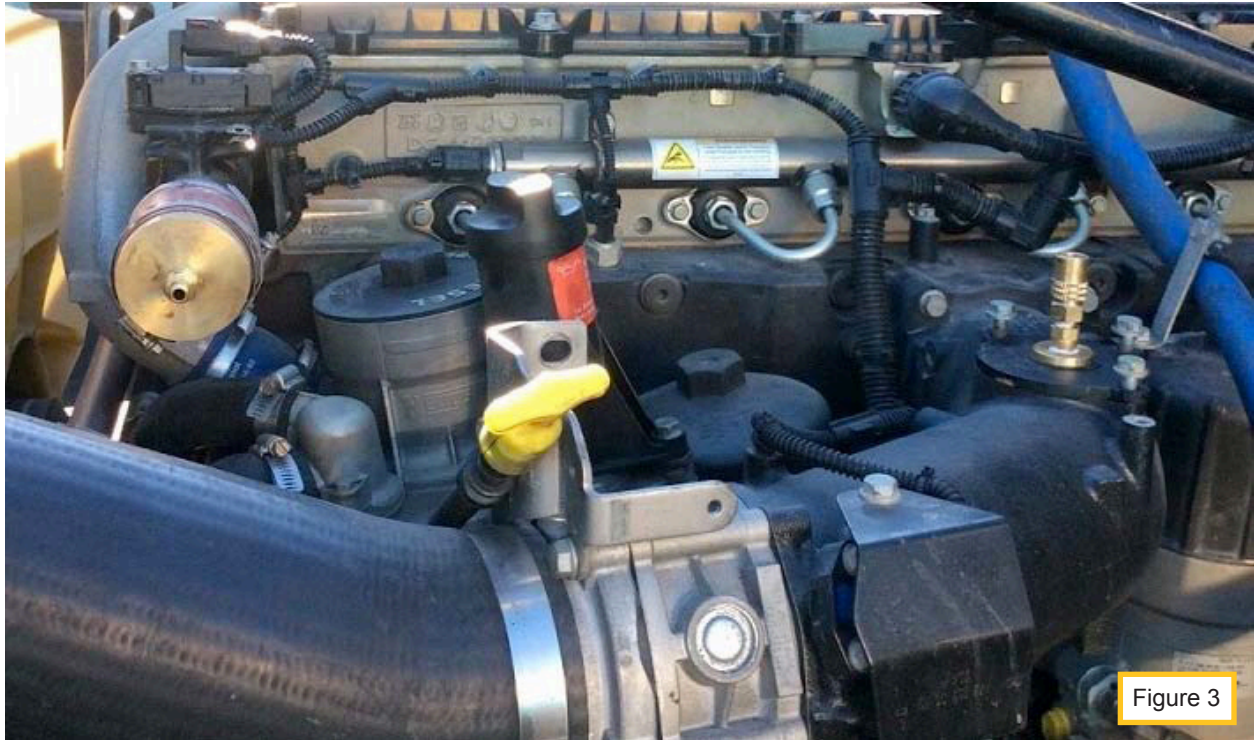

Figure 3
5. Install the EGR Intake Adapter (069-3631) using existing bolts and gasket (see Figure 3) and the EGR Exhaust Adapter (069-3642) using the existing clamp.